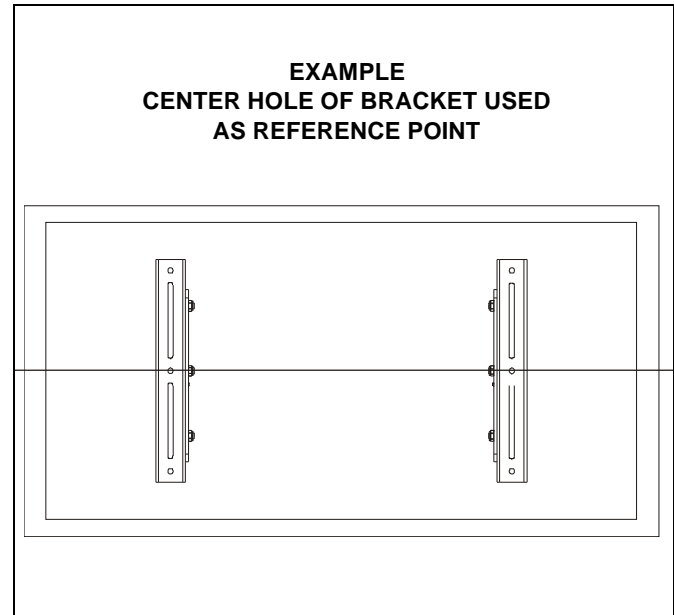
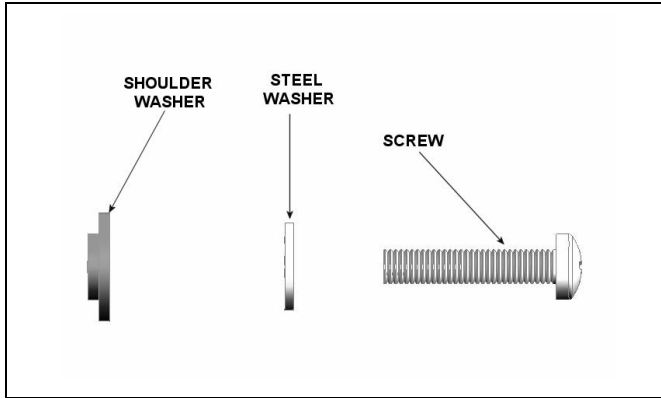
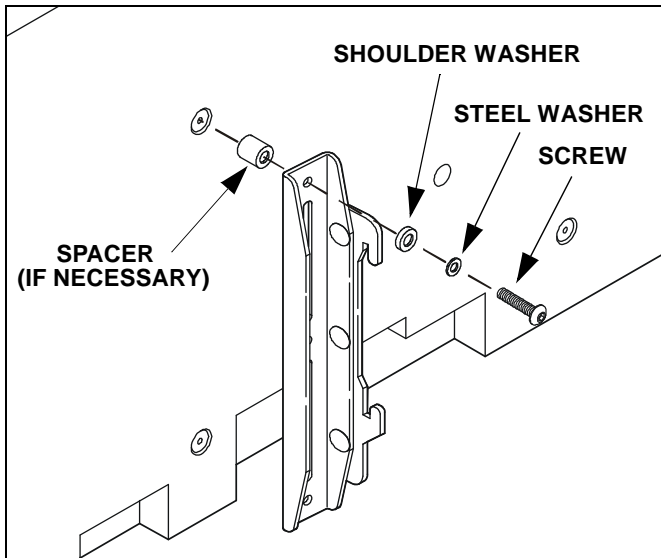
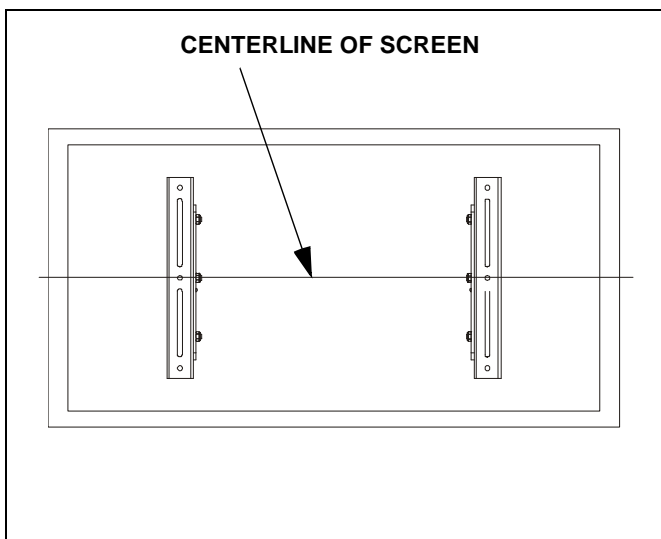

Figure 2
Figure 3
Figure 4
Figure 5
2. Position the interface bracket assemblies (20 and 30) with the hook bracket faced toward the outside of the display. (See Figure 4)
3. Using the center hole on the interface bracket as a reference point, align the bracket with the center line of the display. (See Figure 2) and (See Figure 5)
4. Secure the left and right factory assembled interface bracket assemblies (20 and 30) to the display. Select the mounting hardware that fits your application. (See Figure 3) and (See Figure 4)
- Use M6 screws (70 or 80) or M8 screws (40, 50, or 60), steel washers (160), and shoulder washers (200).
- Or, use M4 screws (120, 130, or 140) or M5 screws (90, 100, or 110) steel washers (150), and shoulder washers (190).
5. Find the center line of the display once again. (See Figure 5)
6. If necessary, remove the attaching hardware and move the hook brackets as close to the center line of the display as possible. Re-install the hook brackets onto the interface brackets. (See Figure 5)